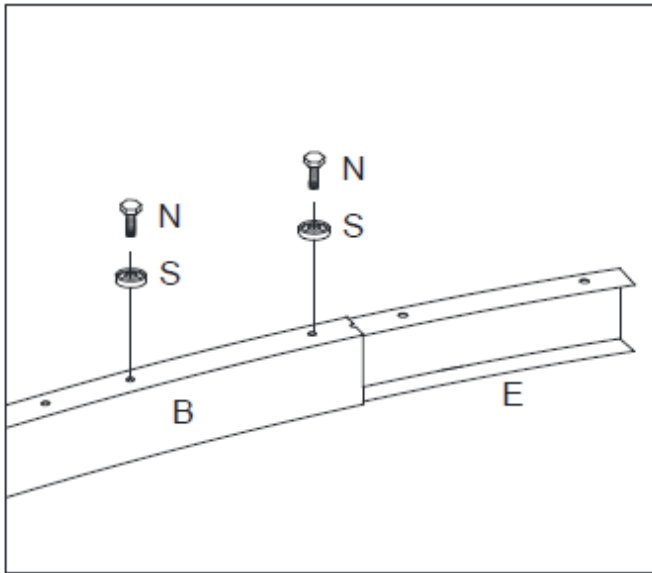

Figure 4-1
Step 4A: Insert Cross Beam Center Connector Plate (E) into the Curved Top Beam (B), attach using Bolts (N) and Plastic Washers (S). See Figure 4-1.